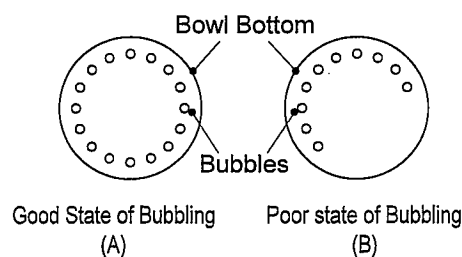

Fig. S-1
- a. If the bubbling state is such that bubbles occur evenly around the bottom of inner bowl as shown in Fig. S-1(A), the inner bowl is satisfactorily in contact with the heating plate.
Where bubbles do not occur more than 1/3 of the bottom periphery as shown in Figure S-1(B), contaminant deposits on the heating plate or deformation or damage on the inner bowl may be existing.